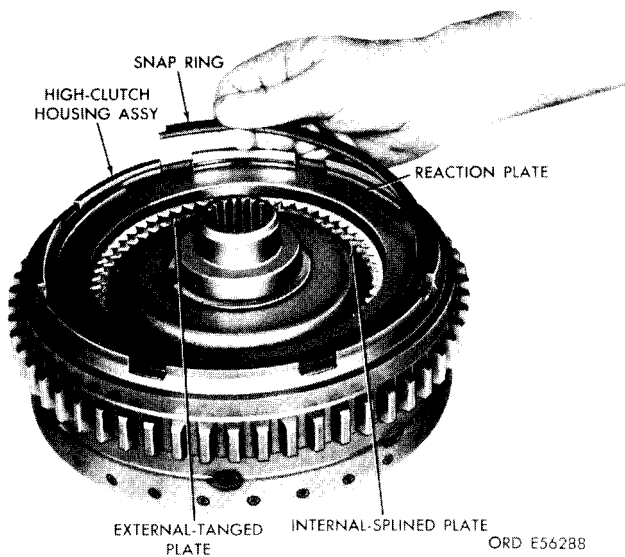
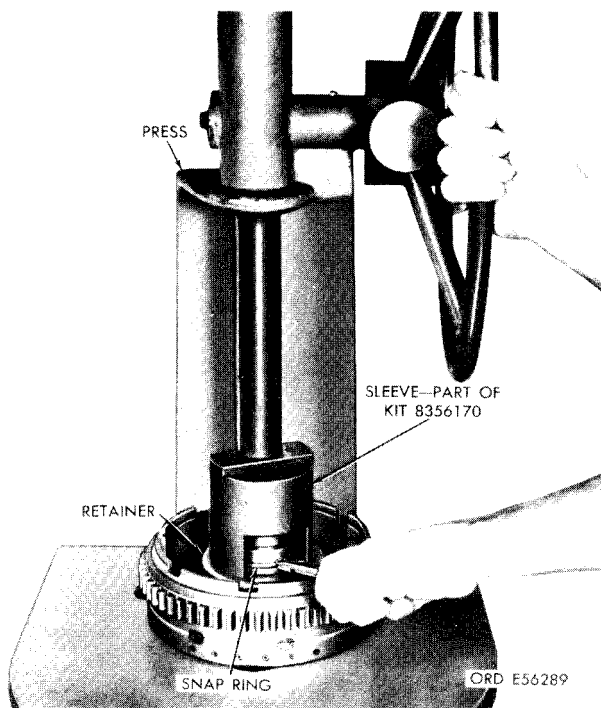

Figure 5-67. Removing or installing high-range clutch reaction plate snap ring.
Figure 5-68. Removing high-range clutch spring retainer snap ring using sleeve (part of kit 5180-572-8607 (8356170)).
(1) Remove snap ring (fig. 5-67) from high-range clutch housing assembly.
(2) Remove reaction plate and four internal-splined and three external-tanged clutch plates.
(3) Using sleeve, part of kit 5180-572-8607, and a press, remove snap ring from high-range clutch housing hub (fig. 5-68).
(4) Remove return spring retainer (30) and springs (28 and 29) from housing (22).
(5) Remove high-range clutch piston assembly (2) from housing by tapping housing with a soft hammer.
(6) Remove Teflon seal ring (25) and seal ring expander (26) from piston (27)
(7) Remove hook-type seal ring (24) from housing.
(8) Remove bushing (23) from housing only if replacement is necessary.
(8) Starting with an internal-splined plate, alternately install four internal-splined and three external-tanged plates (fig. 5-67).
(9) Install reaction plate and snap ring (fig. 5-67).